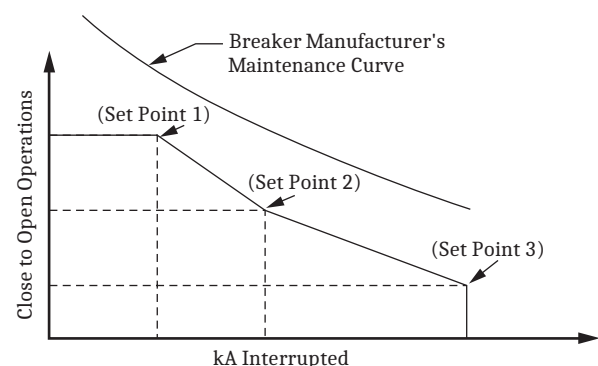

Figure 25 Breaker Contact Wear Curve and Settings
- Every time the breaker trips, the relay integrates interrupted current. When the result of this integration exceeds the threshold set by the breaker wear curve (*Figure 25*), the relay can alarm via an output contact or the optional front-panel display. With this information, you can schedule breaker maintenance in a timely, economical fashion.